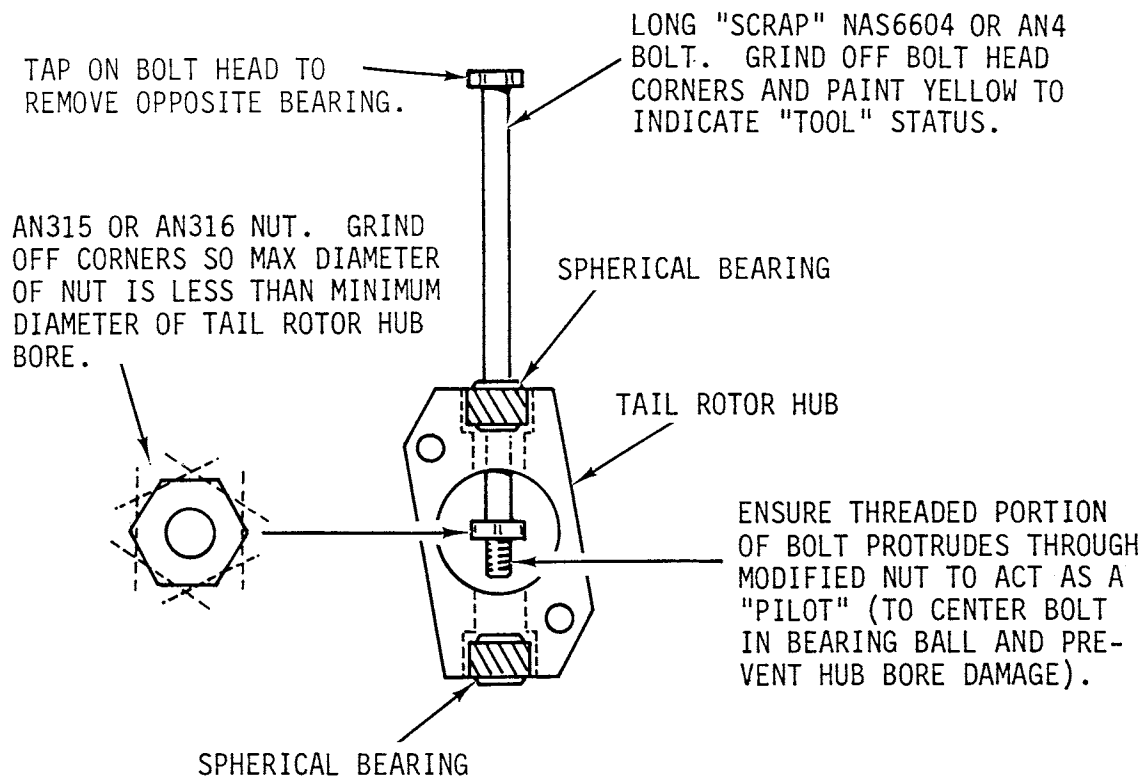

FIGURE 9-13A TAIL ROTOR HUB
4. See Figure 9-13A. Press out worn bearing(s).